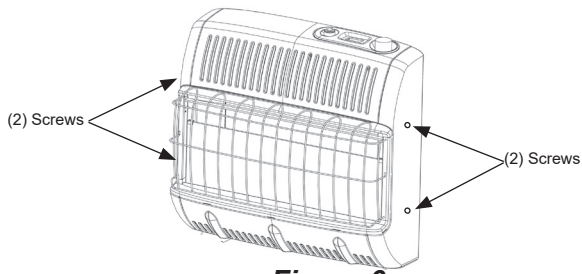

Figure 6
1. Remove (4) screws total there are (2) screws on either side of the heater (Figure 6)